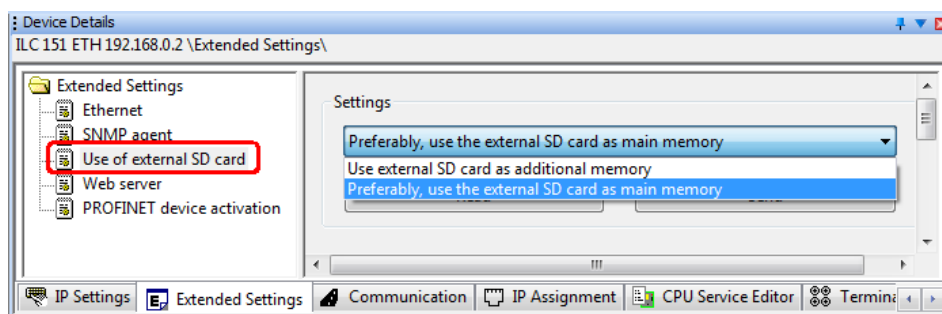

Figure 3-19 Setting the SD card as main memory
Figure 3-19 shows the settings in PC Worx required to use the SD card as the main memory.
- Click “Send” (hidden by the drop-down list in Figure 3-19), to send the setting to the Inline controller.